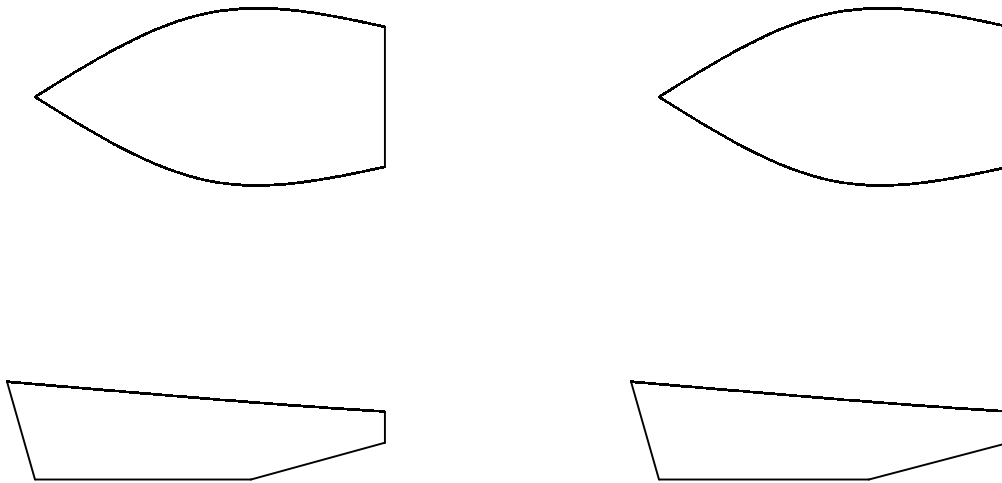

Figure 2: Diagram of YP wake patterns at speeds of 4 and 14 knots.
- d. As the model is being towed, carefully observe the wave pattern (transverse and divergent waves) created by the model as it moves down the tank. Note how the size of the waves increases, and the wavelength increases as the model's speed increases. Sketch the transverse and divergent wave patterns for speeds of 4 and 14 knots on the diagrams in Figure 2 on the following page.